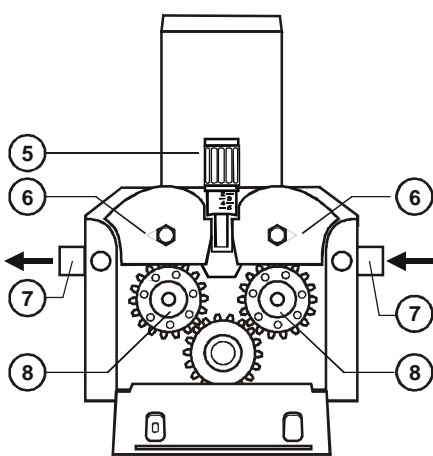

Fig.8 - 50W 4 roll motor
- The wire feeder rolls (8-fig.8&9) and the tip of the torch (9-fig.10) must correspond to the wire diameter.
- The wire must be manually conducted a few centimetres through the rolls (8-fig.8&9) and the wire guide (7-fig.8&9). After this, close the traction levers (6-fig.8&9) verifying that the correct positioning of the wire on the roll end.